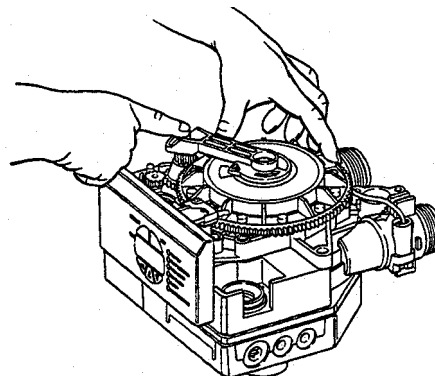

Figure 9
5. With the cam gear disengaged, rotate the cam gear counterclockwise to the Backwash position, Figure 9.
9. With the cam gear disengaged, rotate the cam gear counterclockwise to just before the Service position, Figure 9. Connect power to the control and allow the motor to drive the cam gear to the Service position. When the cam gear reaches the Service position, the motor will stop.